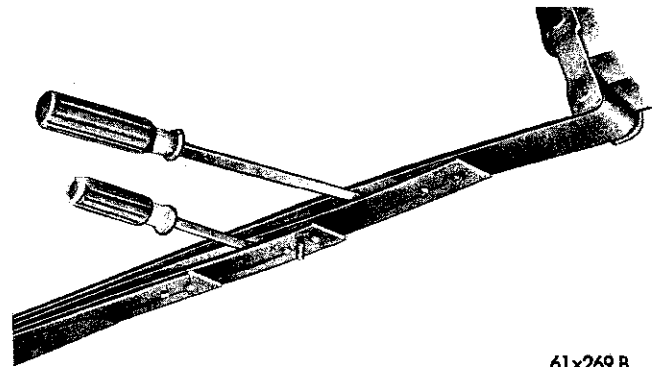

Fig. 4—Separating the Spring Leaves
(1) Raise the rear of the vehicle until the shock absorbers are fully extended.
(2) Remove the alignment clips from the spring.
(3) Separate the spring leaves (Fig. 4) and remove the interliners.